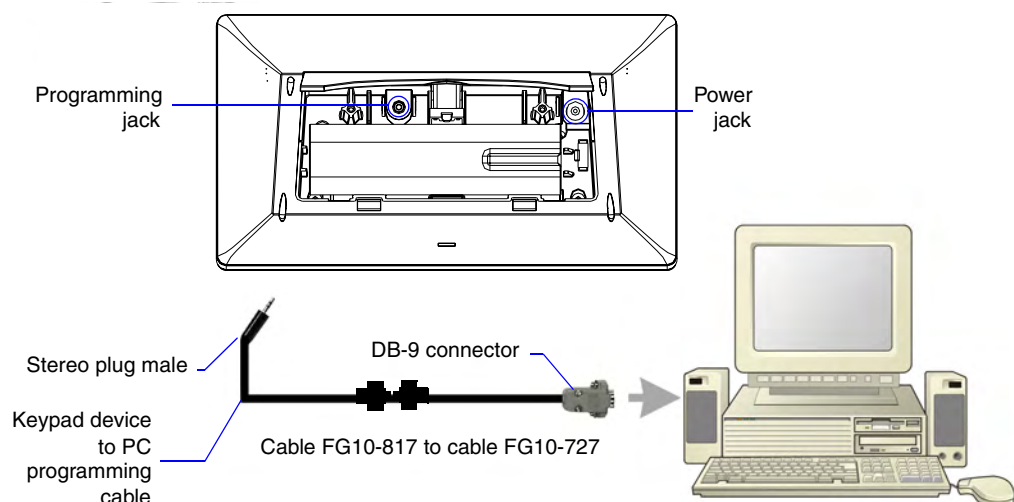

FIG. 4 Connecting The Keypad Device to Your PC
2. Connect the 2.5 mm stereo plug (male) end of the programming cable (**FG10-817**) into the programming port shown in FIG. 4.